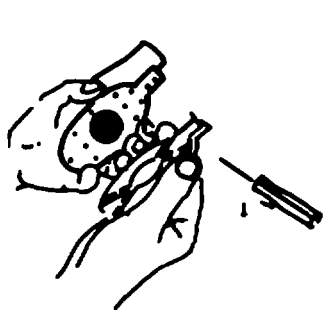
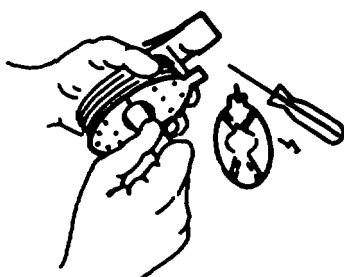

Figure B-10.
Figure B-11.
b. Eliminating Leaks. Any leaks can usually be eliminated by cleaning the valve. To do this, remove the front plate (Fig. B-10) and unscrew the valve using the special spanner (Fig. B-11). Raise the valve disc to prevent it from being damaged by the spanner. Clean the valve by blowing it through with air or by rinsing it with water. Dry after cleaning.